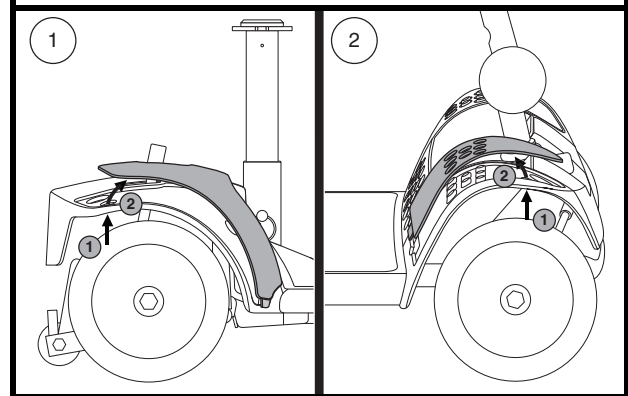

Figure 11. Fender Panels
2. Push through the hole to separate the piece from the Travel Scooter. See **figure 11**.
**NOTE:** When installing the front and rear fender panels, make sure the tab at the bottom of each panel is inserted into the tab opening before securing the panel. See **figure 11**.